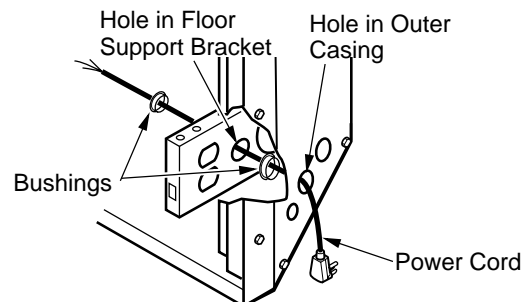

Figure 7 - Routing Power Cord
1. Determine from which side of the fireplace the power cord will exit. Locate the 1.5" diameter hole near the center of floor support bracket on appropriate side of lower cavity (see Figure 7).